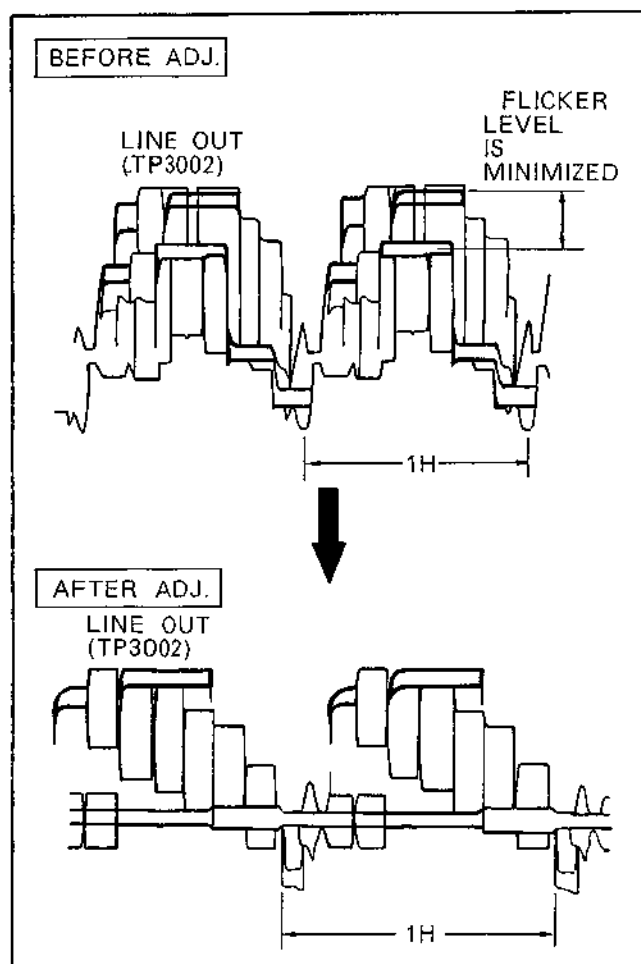

FIG. E29
3. Adjust VR3302 so the the flicker of luminance signal is minimized as shown in FIG. E29.